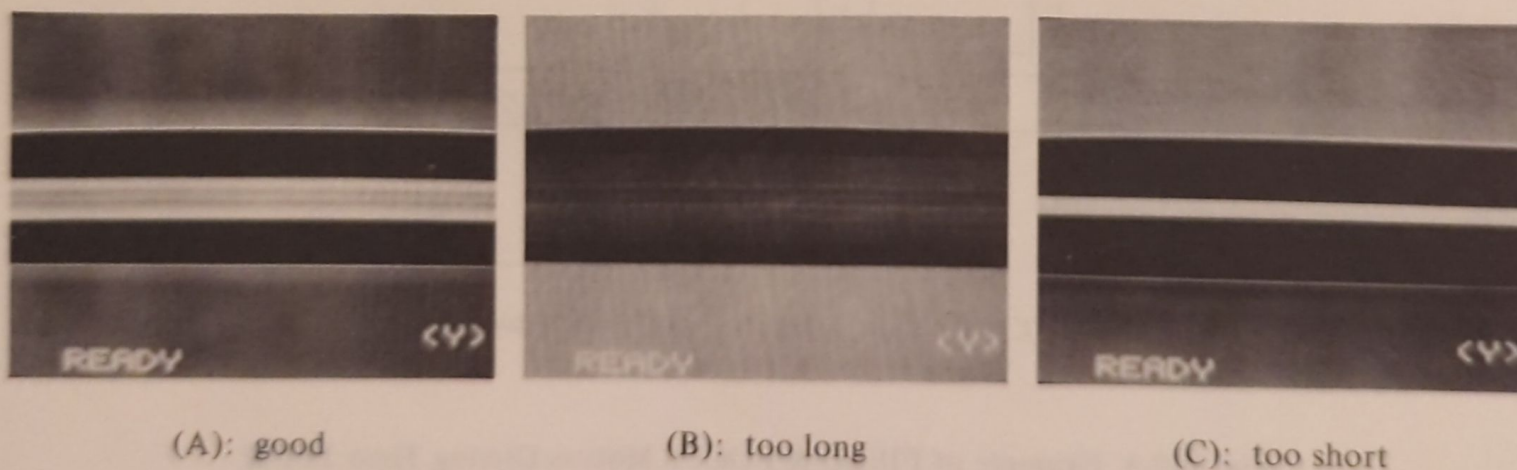

Fig. 362-4 Examples of Additional FOCUS Motor Driving Time TFM in Automatic FIELD exchange from (X) to (Y)
- ① Follow the steps (9) ① ~ ③.
- ② The TFM is good when the automatic FIELD exchange results in Fig. 362-4 (A).
But the TFM is too long when the automatic FIELD exchange results in Fig. 362-4 (B). In this case decrease the TFM by Dip Sw 4 Bit 4 ~ 5.
The TFM is too short when the automatic FIELD exchange results in Fig. 362-4 (C).